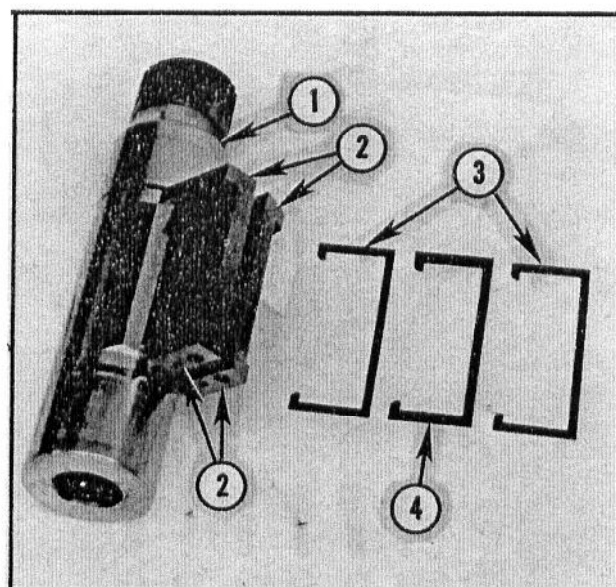

Fig. 37 — Vaned Shaft and Seals — Orifice Plates Removed
- Remove the "quad" seal and back-up seals. See Fig. 37.
16. Assemble the moving vane seal and back-up seals to the shaft assembly, see Fig. 37.